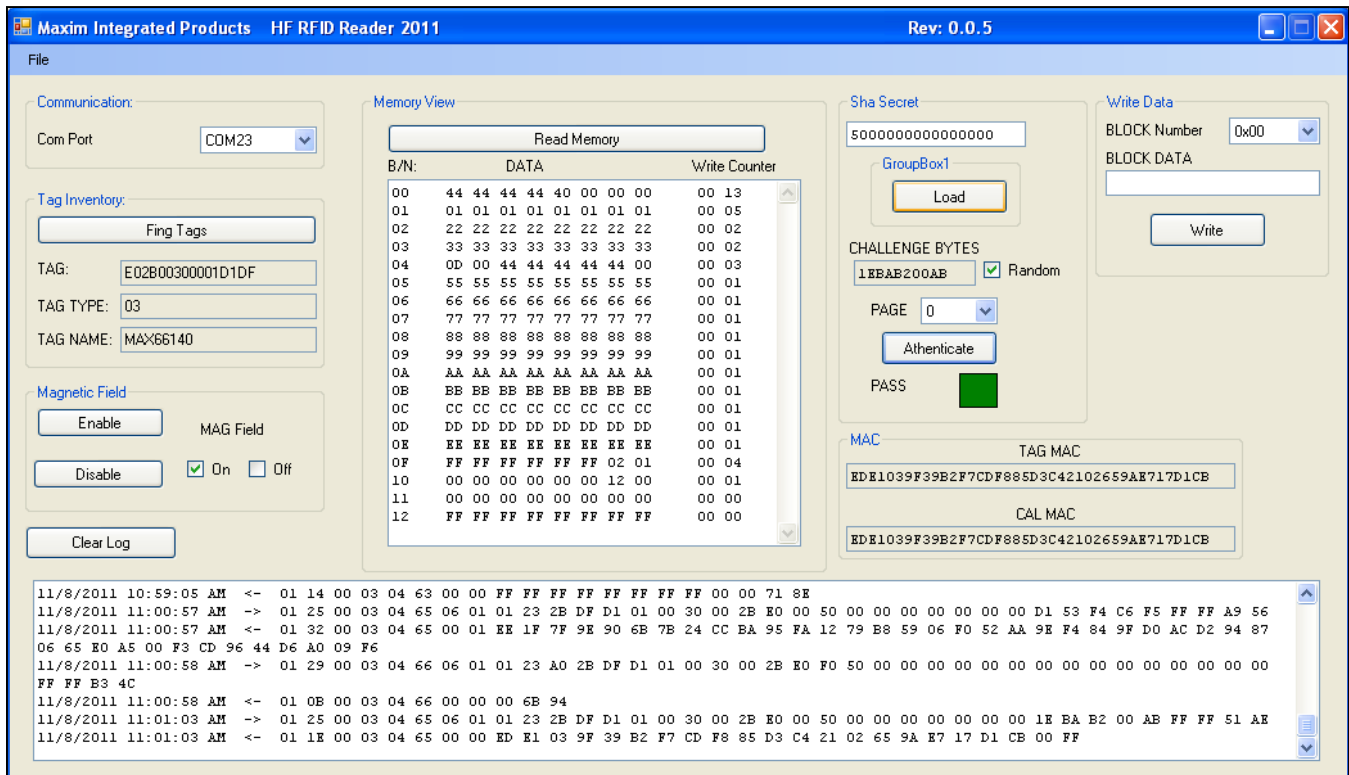

Figure 5. Load Secret and Authenticate Tag
- 10) Select any page number and click **Authenticate**. If the SHA-1 MAC received is the same as what was calculated, the pass/fail button will be **GREEN**. Otherwise, it will be **RED**. See Figure 5.